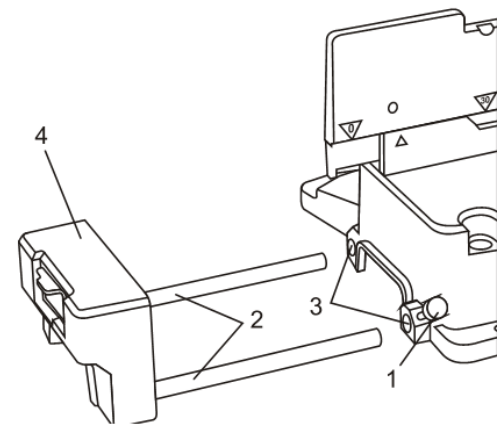

Fig. 4
1. Turn the base extension support locking screw (1) counter clockwise until it does not protrude into the hole in the base casting (3) (Fig. 4).
2. Insert the two base extension support rods (2) into the matching holes in the base casting (3).